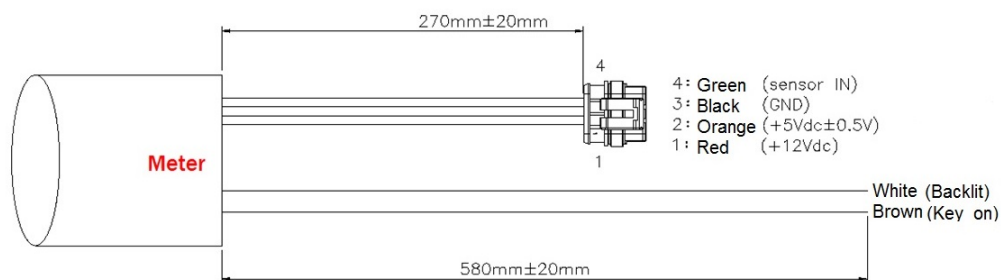

Fig. 18
4. Gauge lighting: refer to a wiring diagram for your vehicle and connect the white gauge wire to the output of the dash light dimmer knob, or directly to the headlight switch if desired (see figure 18).
5. Key on wiring: Connect the brown gauge wire (see figure 18) to a permanent 12 V power. This power line drives the pointer return to zero once the power shuts off to avoid pointer stopping in the middle of the dial weep when the power shuts off unexpectedly.